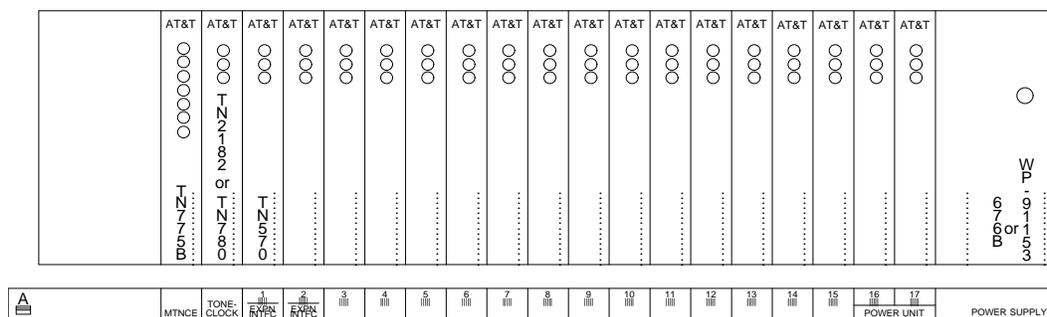

Figure 3-5. Circuit-Pack Locations in DEFINITY ECS R5r Expansion Control Cabinet
2. Using Figure 3-5, the label, and the annotated "list configuration all" (provided with the DEFINITY ECS R5r tape), install the DEFINITY ECS R5r control circuit packs into the new expansion control cabinet.